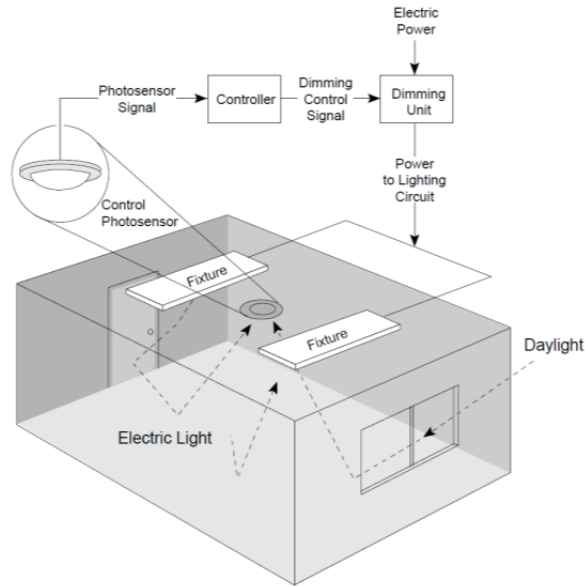

Figure 33: Schematic diagram of a room with a photoelectric dimming system
- **Daylight algorithms accommodate complexity.** These are the “smarts” that tell the electric lights what to do. Since the intensity and spatial distribution of daylight changes over time, these smarts are designed to provide sufficient light under these complex conditions. Figure 33 illustrates the process through which the ceiling-mounted photosensor adjusts the electric lighting as required to maintain the design level of total lighting through reading both electric light and daylight in the space.